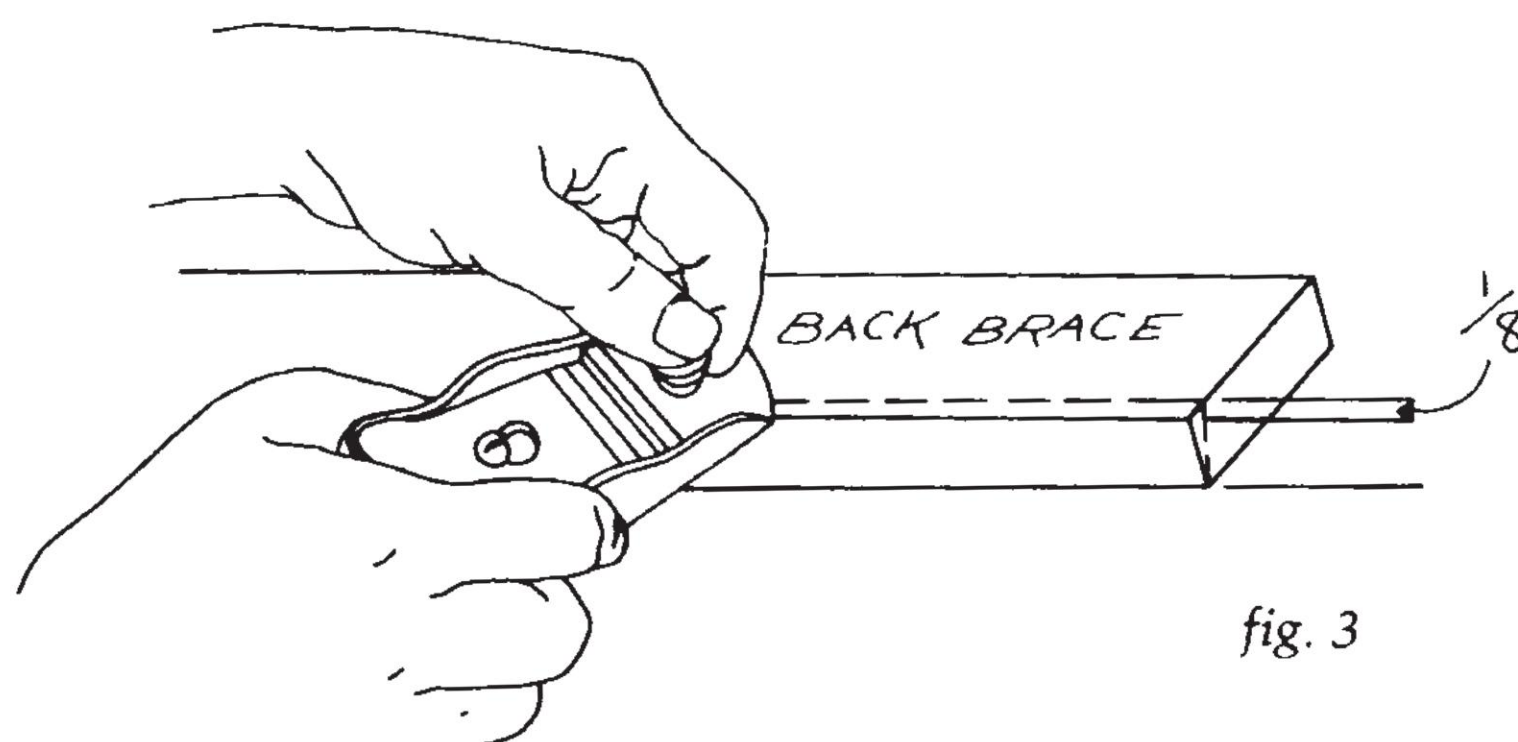

fig. 3
6. Plane the corner of the back brace as shown in *fig. 3.*